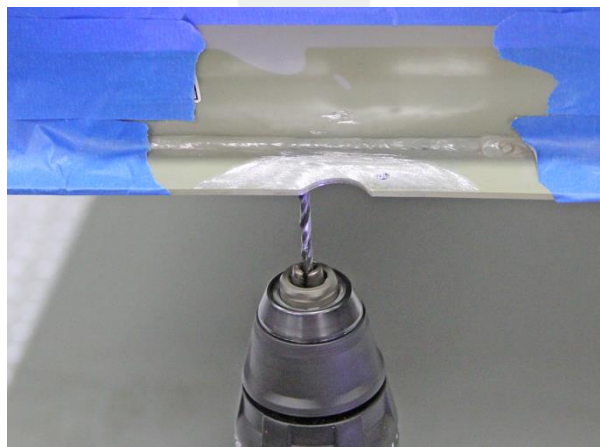

Figure 8
9. Working from the bottom of the HV Battery, use a 5/32 in (4 mm) bit to drill a hole in both marked locations (Figure 8).